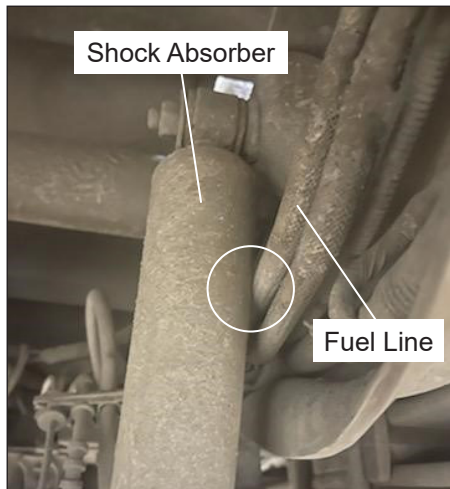

Figure 9 — Fuel Line Contact
5. Inspect the full length of the fuel lines and brake lines along the street side chassis frame rail for any evidence of contact with metal components such as the rear shock absorber, bolt(s) through the frame rail, etc., or other components made of material hard enough to damage the lines (refer to Figures 9 and 10). If necessary, try to insert a piece of paper or a dollar bill into the point of suspected contact. If the paper jams up or drags, the parts are in contact. If it passes freely, the parts are not in contact.